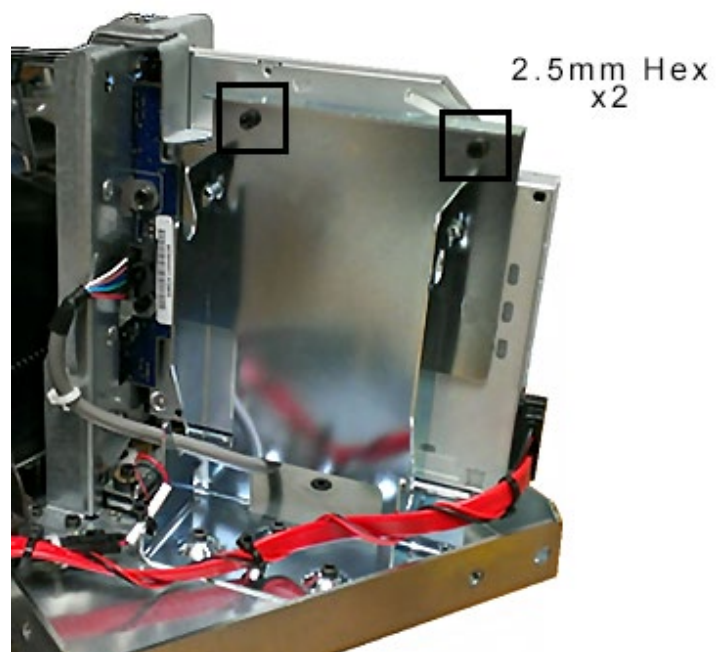

Figure 16
2. Loosely install the two 2.5mm hex screws into the back of the disc drive. See Figure 16.
- 2) Back 2.5mm hex screws. See Figure 16.